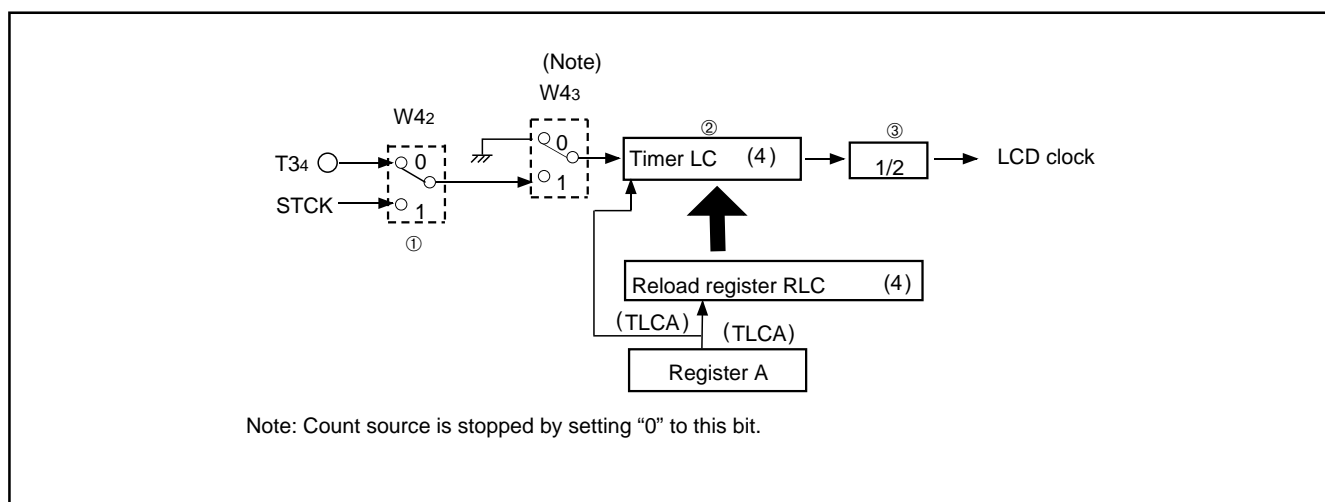

Fig. 32 LCD clock control circuit structure
(2) LCD clock control
The LCD clock is determined by the timer LC count source selection bit (W42), timer LC control bit (W43), and timer LC. Accordingly, the frequency (F) of the LCD clock is obtained by the following formula. Numbers ① to ③ shown below the formula correspond to numbers in Figure 32, respectively.